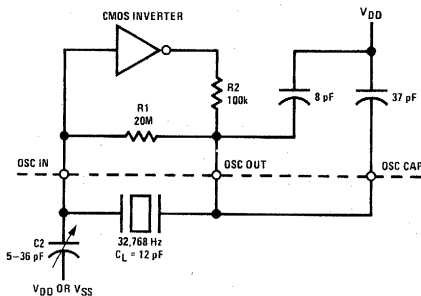

FIGURE 4. Crystal Oscillator Network
**Time Base:** The precision time base of the watch is provided by connecting a crystal controlled RC network to the on-chip CMOS inverter/amplifier as shown in *Figure 4*. For proper operation, the network should be tuned to 32,768 Hz. Resistor R1 is used to bias the on-chip inverter for class A amplifier operation. Resistor R2 is used to (a) reduce the voltage sensitivity of the network; (b) limit the power dissipation in the quartz crystal; and (c) provide added phase shift for good start-up and low voltage circuit performance. Capacitors C1 and C2 in series provide the parallel load capacitance required for precise tuning of the quartz crystal. The network shown in *Figure 4* provides greater than 100 ppm tuning range when used with standard X-Y flexure quartz crystals trimmed for  $C_L = 13$  pF. Tuning to better than 2 ppm is easily obtainable.